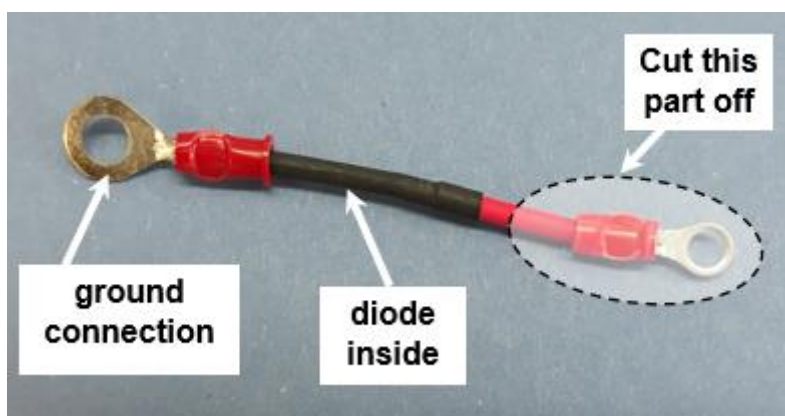

Figure 3. Diode assembly, P/N 16050-2
- a) Cut off the part (small ring terminal) accordingly to Figure 3.